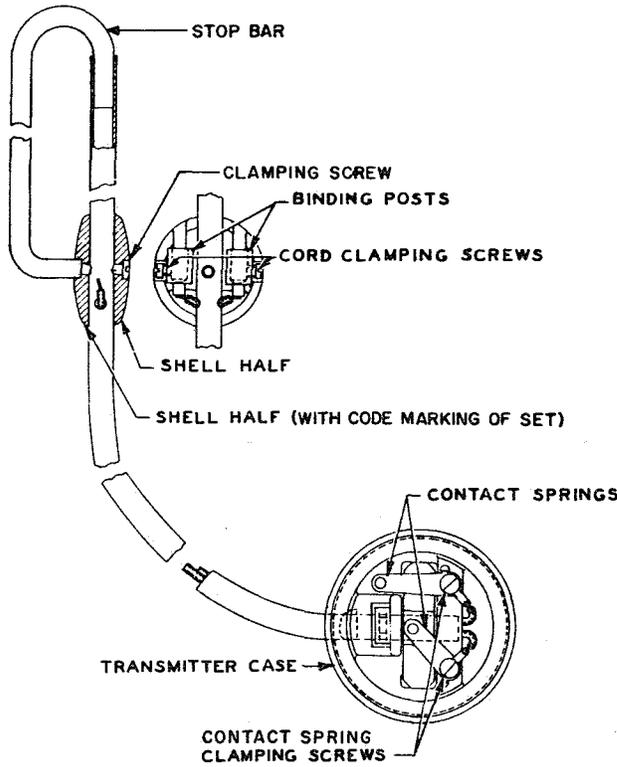

Fig. 12B
3.32 Remove the transmitter cap, transmitter unit, and polyethylene disc as covered in 3.22 and 3.23. Remove the clamping screws shown in Fig. 12B with the KS-6854 screwdriver.
3.37 Substitute new parts as required. Place the shell halves on the binding posts as shown in Fig. 12B. Insert the clamping screw and nut and tighten securely.
3.39 To replace any of these parts, remove the screw shown in Fig. 12B, using the KS-6854 screwdriver, and remove the shells.
3.41 Substitute new parts as required. Place shell halves on the binding posts as shown in Fig. 12B, insert the lower end of the stop bar, and tighten the screw securely.